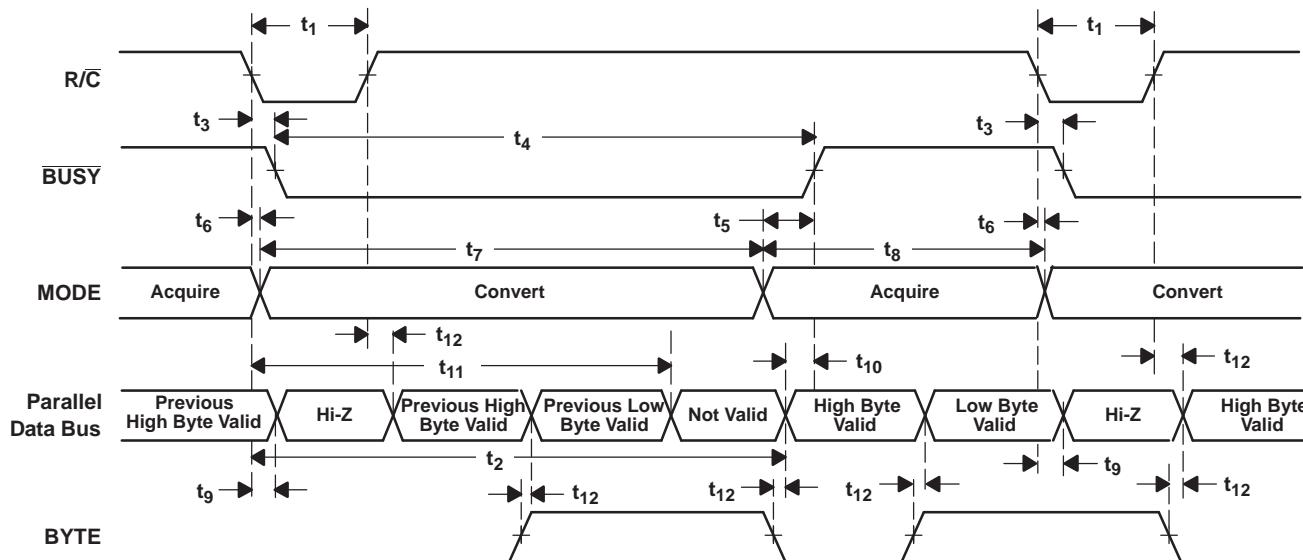
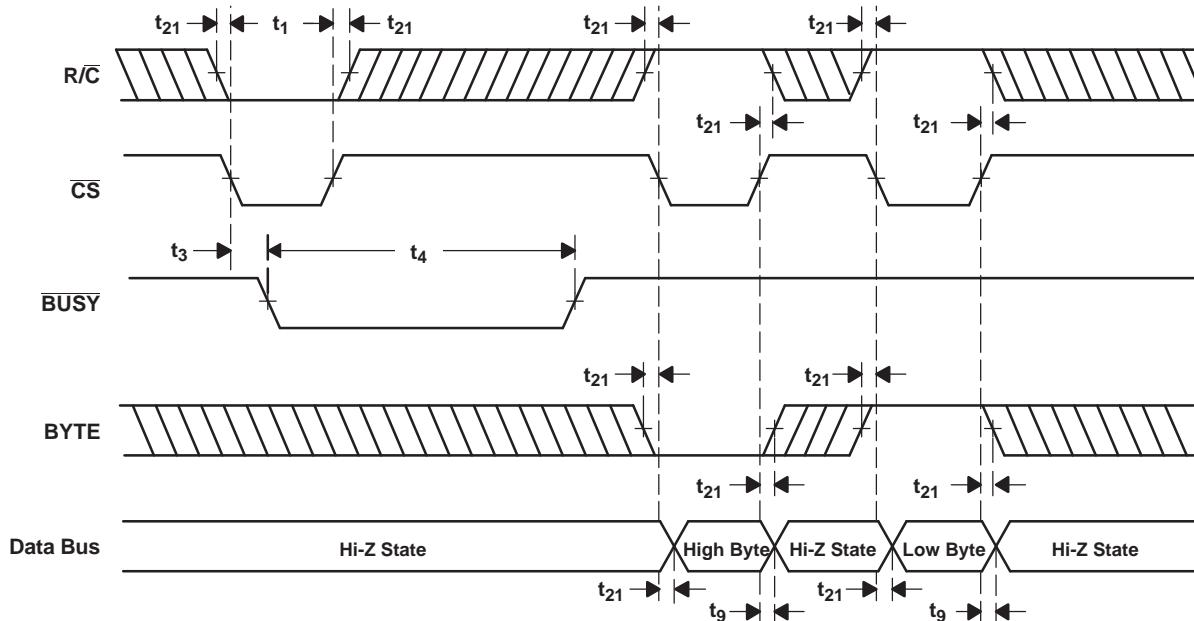

Figure 30. Conversion Timing With Parallel Output (**CS** and **DATACLK** Tied Low, **EXT/INT** Tied High)
Figure 31. **CS** to Control Conversion and Read Timing With Parallel Outputs
The ADS8517 begins tracking the input signal at the end of the conversion. Allowing 5 μ s between convert commands assures accurate acquisition of a new signal. Refer to Table 2 and Table 3 for a summary of \overline{CS} , $\overline{R/C}$, and $BUSY$ states, and Figure 30 through Figure 36 for timing diagrams.
(1) See Figure 30 and Figure 31 for constraints on data valid from conversion $N-1$.
After conversion N is completed and the output registers have been updated, **BUSY** (pin 24) goes high. Valid data from conversion N are available on D7-D0 (pin 9-13 and 15-17). **BUSY** going high can be used to latch the data. Refer to Table 5, Figure 30, and Figure 31 for timing specifications.
After conversion N has been initiated, valid data from conversion $N-1$ can be read and are valid up to $2.2 \mu\text{s}$ after the start of conversion N . Do not attempt to read data beyond $2.2 \mu\text{s}$ after the start of conversion N until **BUSY** (pin 24) goes high; doing so may result in reading invalid data. Refer to Table 5, Figure 30, and Figure 31 for timing constraints.